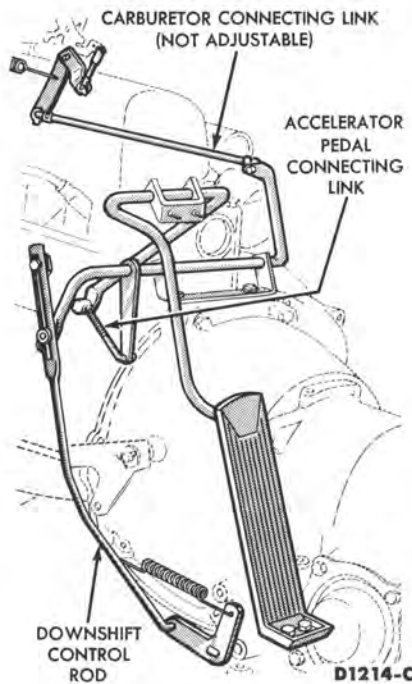

FIG. 2—Throttle Linkage—PCL and PCM Models
4. Loosen the adjustment screw on the downshift control rod (Fig. 2).